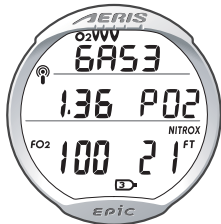

Fig. 96 - DECO STOP ALT 2
**DECO STOP ALT 2 DISPLAY**, information includes (Fig. 96) -